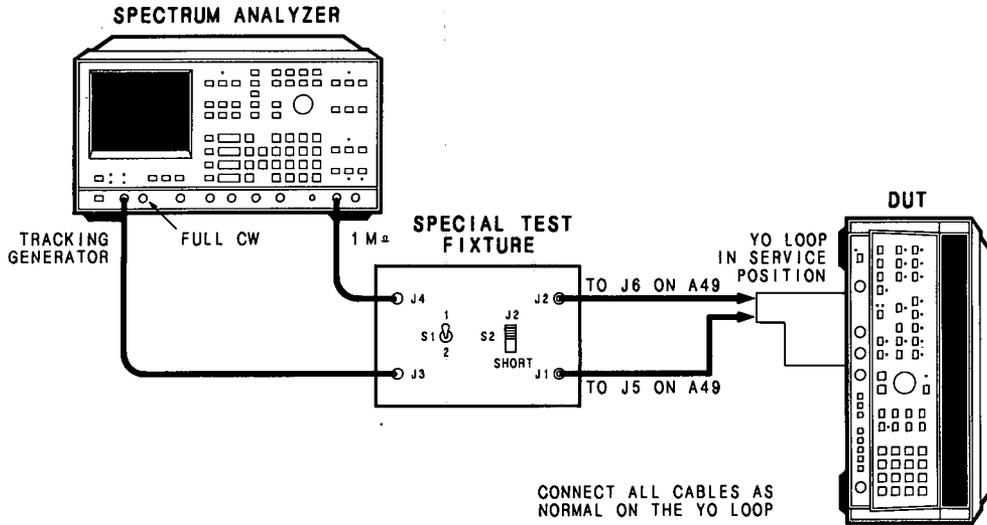

Figure 5-24. YO Loop Gain Test Setup
22. Connect the Special Test Fixture and the spectrum analyzer to the YO Loop as shown in Figure 5-24.